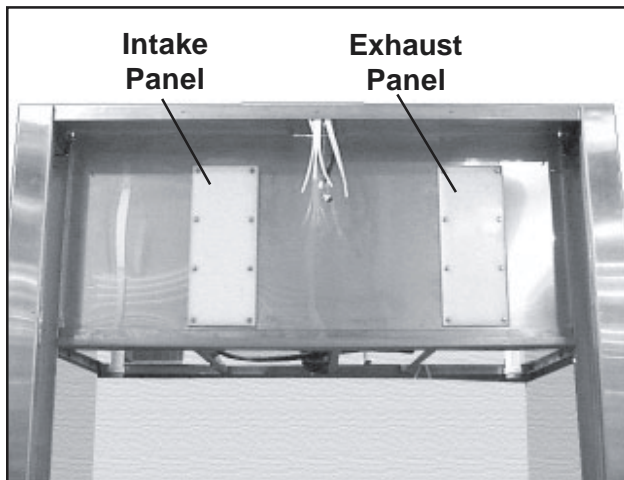

Figure 88. Polyethylene Panels
4. With a flat-blade screwdriver, remove the eight screws on each polyethylene panel (Figure 88) and remove panels from the cubicle.
2. Replace the polyethylene panel and loosely insert the eight screws (Figure 88).